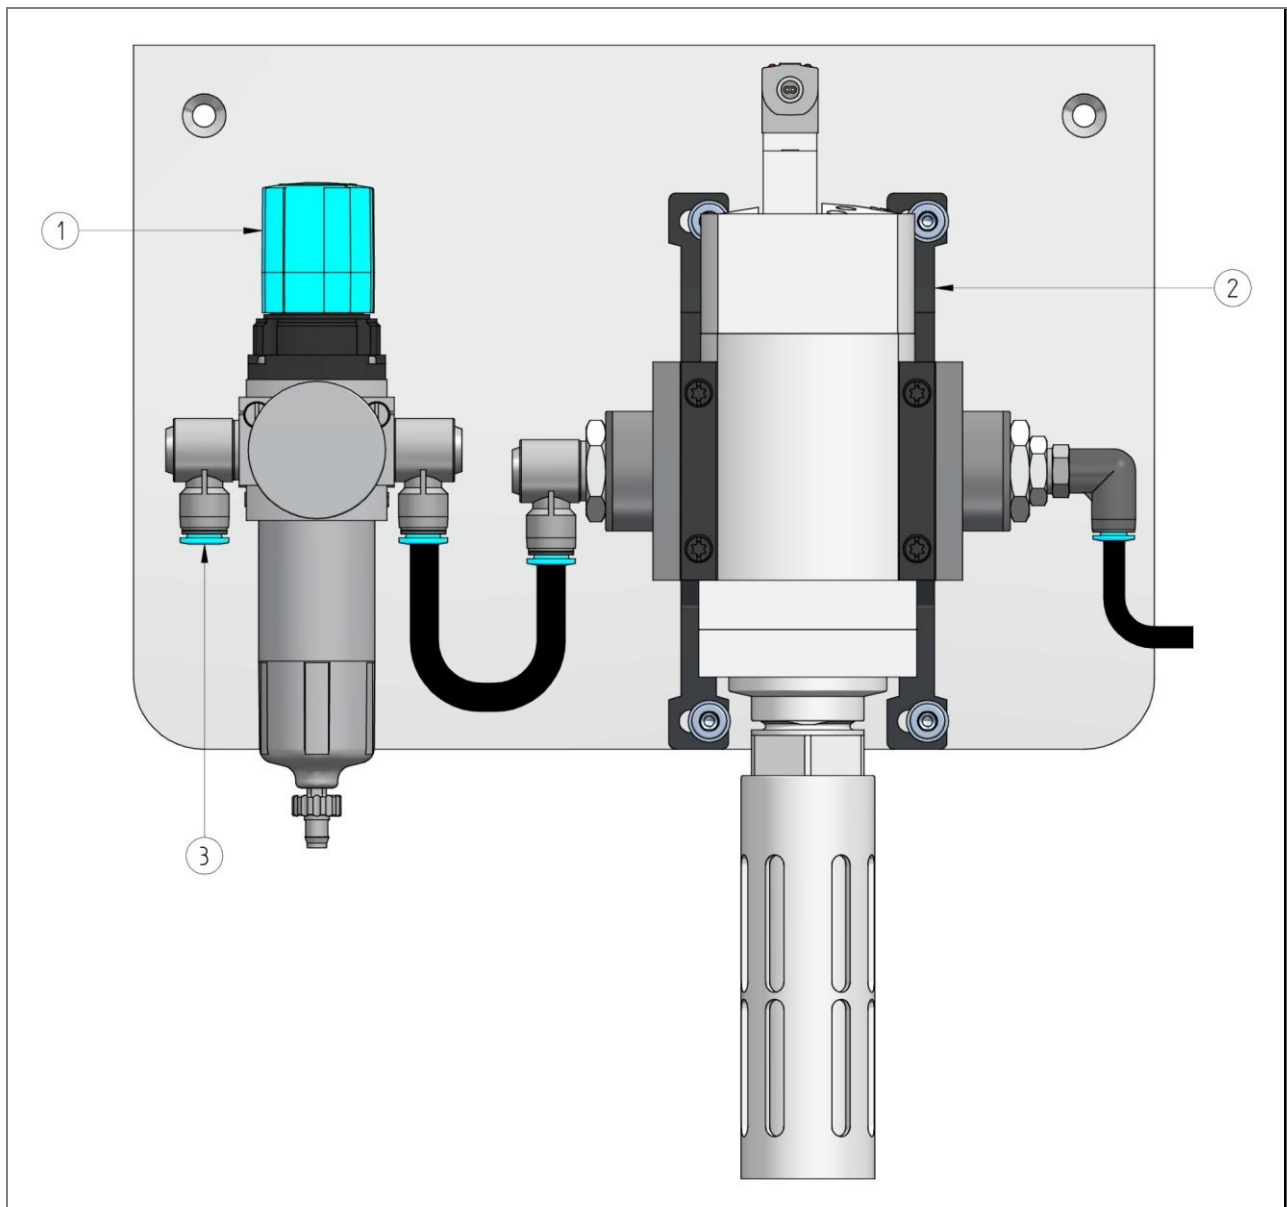

Fig. 6: Compressed air preparation unit and safety valve
- The compressed air connection for the cross slide unit is the input side of the pressure control valve (Fig. 6, Pos. 3).
- When the system is voltage-free, the internal compressed air line is only opened as far as the start-up and venting valve (Fig. 6, Pos. 2). This enables safe compressed air pressurization without the cross slide unit performing a mechanical movement.